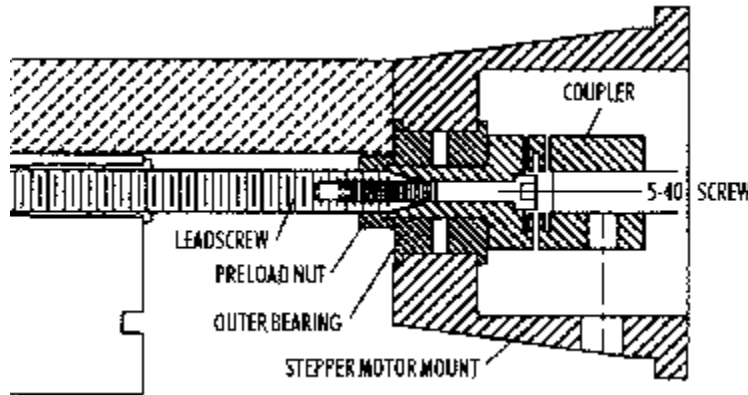

FIGURE 4-A cross-section of the stepper motor mount shows how the coupler is attached to the leadscrew.
4. Using a 3/8" wrench, adjust the preload nut snugly against the end of the bearing. Tighten it enough to remove all endplay. (See Figure 4 to understand how the nut preloads the bearings.) Turn the coupling by hand to make sure it turns freely, then put a little Loctite® on the threads behind the preload nut and let capillary action draw the fluid in. Figure 3 shows how to use a hex key through the hole in the mount to keep the coupler from turning while tightening the preload nut.